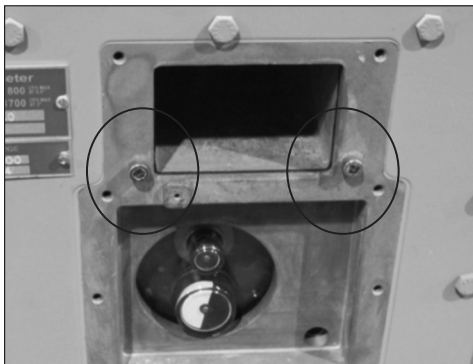

Figure 9.49 - Two front enclosure bolts are located under instrument housing
8. Install two (2) 1/4"-20 screws in the recessed area of the housing as shown in Figure 9.49. (Note: These bolts are covered by the Instrument Housing when the meter is fully assembled.) Use a 3/16" Allen wrench to tighten 7-8 ft. lbs torque.